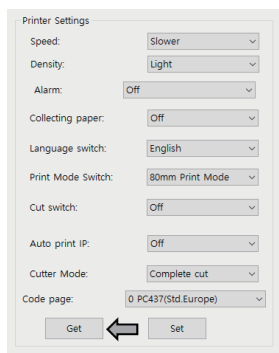

Fig.4
③ Printer Function Settings: Adjust the printer’s key functional parameters, including print speed, darkness level, and sound/light alert settings. Click “Get” to retrieve the printer’s current configuration. When the confirmation window appears, click “OK” to continue (see Figures 4 and 5).